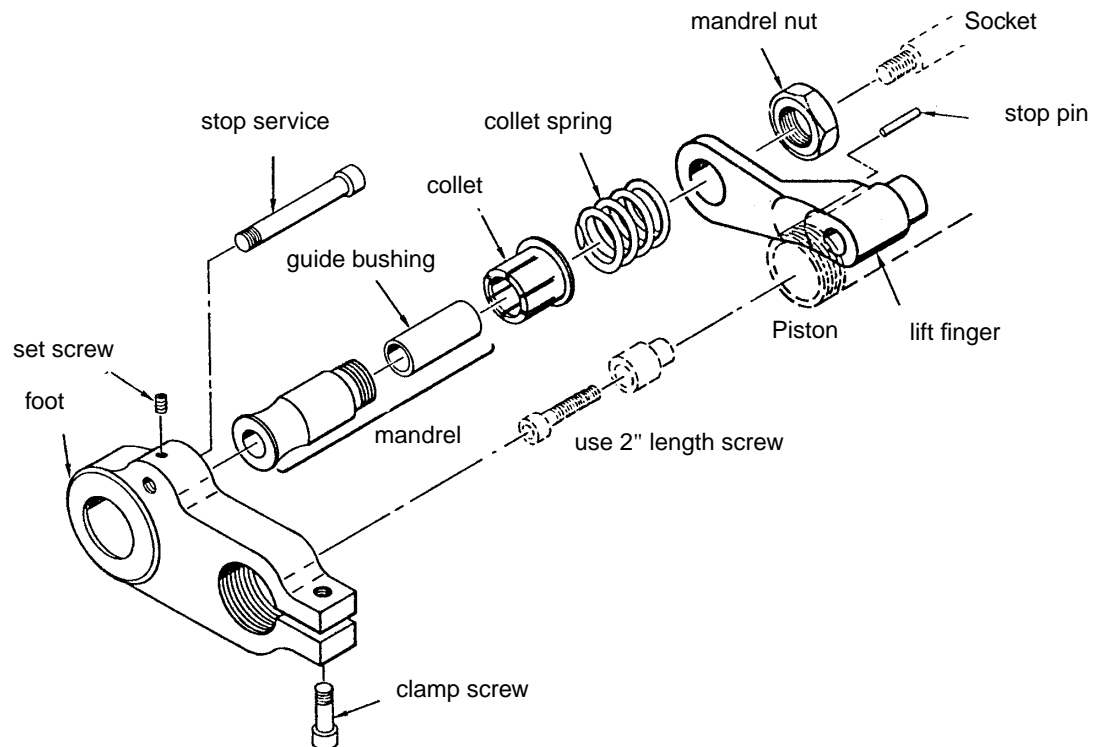

Figure 6 - Drill Jig Collet Foot Assembly
5.2.2.1 Install the drill jig collet foot attachment as follows (see Figure 6):